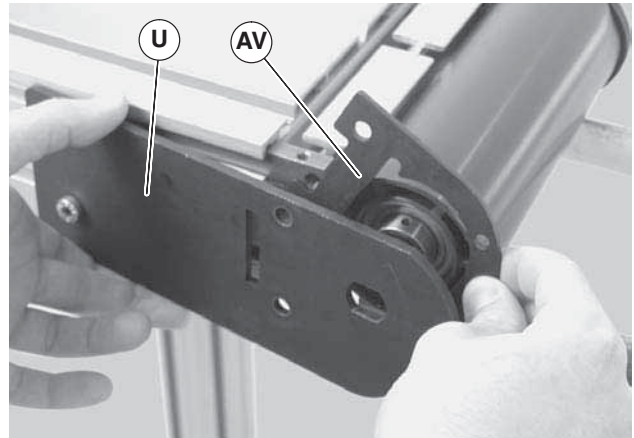

Figure 35
3. Pull back the outer headplate (Figure 35, item U) and remove the inner spacer (AV).